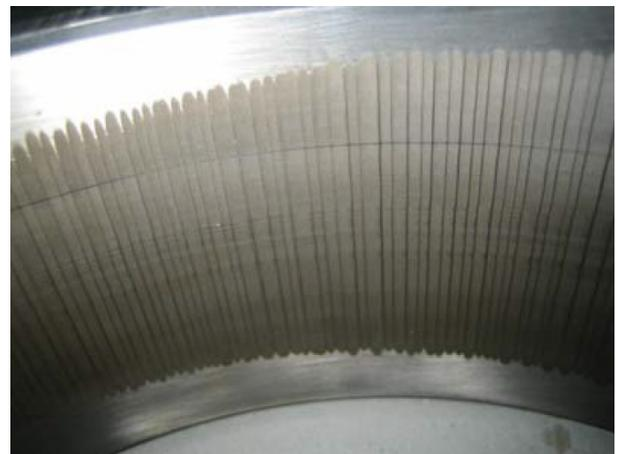

Fig.4 Photo of electrolytic corrosion of bearing outer race
Countermeasures and Results	<p>Disassembling inspection of the bearings revealed that the outer race of the bearing ② has damage (Fig.4), which was assumed to be undoubtedly due to electrolytic corrosion. Electrolytic corrosion refers to a phenomenon that, if current flows at the contact parts of a rotating race and a rolling elements of bearings under rotation, sparks occur through a thin lubrication oil film, leading to local melting of the surface to cause asperities. Then, voltage measurement was made to confirm a potential difference between the motor and the reducer. As this reducer uses an inverter, a leakage current peculiar to high-frequency switching operation of the inverter passes to the ground through a floating capacity inside the motor. In this arrangement, the motor and the extruder (containing the reducer) have an individual base, thus causing a potential difference between them due to leakage current. It was estimated that this current flows from the motor earthing brush -&gt; motor shaft -&gt; reducer shaft -&gt; reducer bearing, to cause electrolytic corrosion. Thus, as a countermeasure, each base was connected by flat braided wires. As a result, the potential difference was reduced to 1/10, and as a matter of course, the abnormal bearing was replaced.</p>